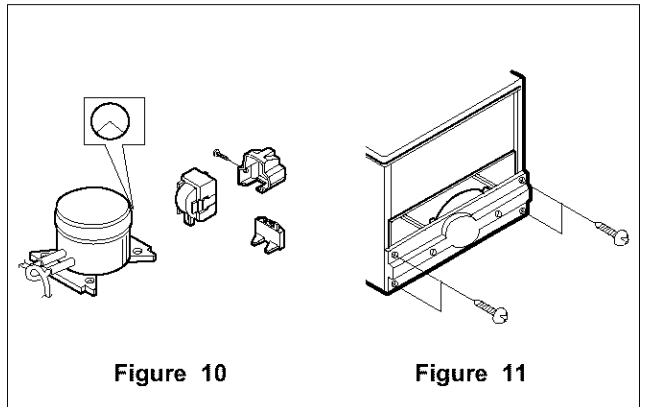

Figure 10
1. Remove Clamp, Protector Cover, Power Cord and Lead Wire first. (Figure 10)